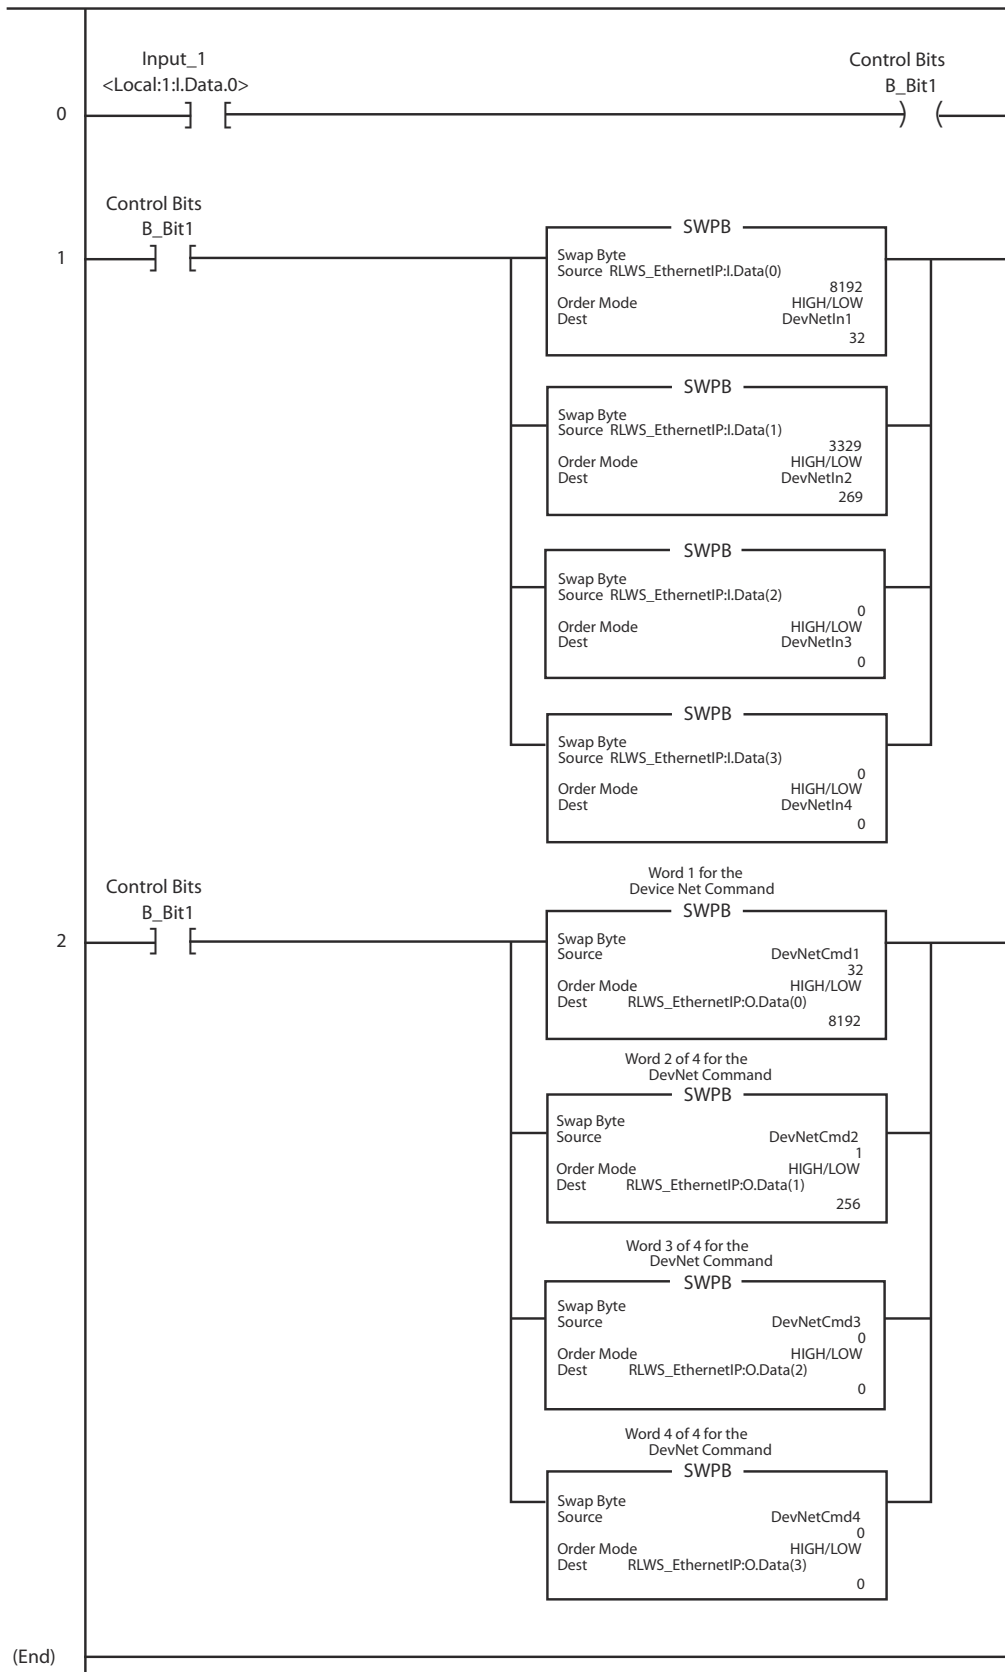

Figure 3-3. Ladder Logic for Bit-swapping
18. Write the ladder or structured language code for the PLC. When data is acquired from the indicator, a SWPB (swap bits) instruction is required to swap the upper and lower bytes for all four outbound words. Data received must also use the SWPB instruction to swap inbound words. By using the SWPB instruction, words can be MOVED to a destination tag then treated as real values elsewhere in the PLC program. See Figure 3-3.